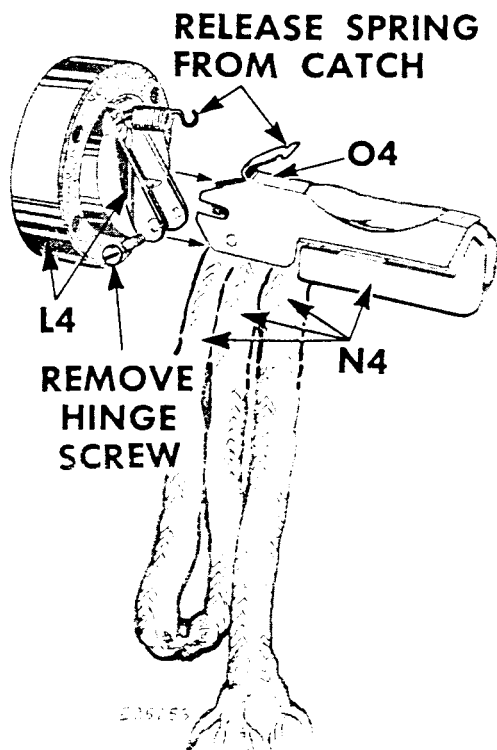

Fig. 61. Disassembly of Oil Removing Wick (Showing Oil-Removing Wick Holder Body and Spring 147108)
Oil-removing wick assembly, **Complete 147056**, shown in **Fig. 61** is designed to remove excess oil from the head of the machine arm.
Additional sets of the oil-removing wick, wick holder body and spring, as shown in **Fig. 61**, will be furnished on order.
1. Release end of spring from catch on the holder body O4, as instructed in Fig. 61.
2. Remove hinge screw, as instructed in Fig. 61.
3. Oil-removing wick and holder N4 may then be removed from hinge plate and cover L4, as shown in Fig. 61.
5. Check the entire assembly to make certain that the holder body (see **O4**, Figs 61 and 62) hinges freely under the needle bar crank.